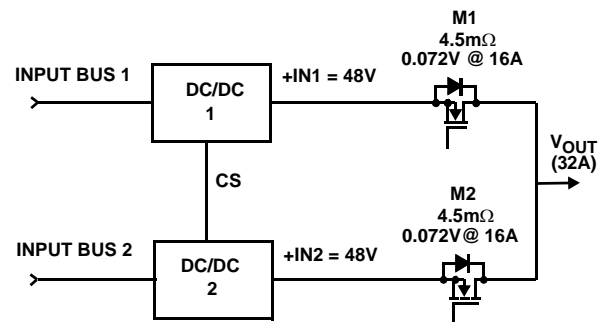

FIGURE 31. 1+1 REDUNDANT SYSTEM WITH MOSFET ORING
For example, in a 48V, 32A (1 + 1) redundant system with current sharing, using a Schottky diode as the ORing device (Refer to Figure 31), the forward voltage drop is in the 0.4V to 0.7V range, (let us assume it is 0.5V). The power loss across each diode is shown in Equation 10:
- In the particular cases illustrated in the previous examples of Figures 31 and 32 with N = 1, each of the two ORing feeds have to be able to handle the full load current.